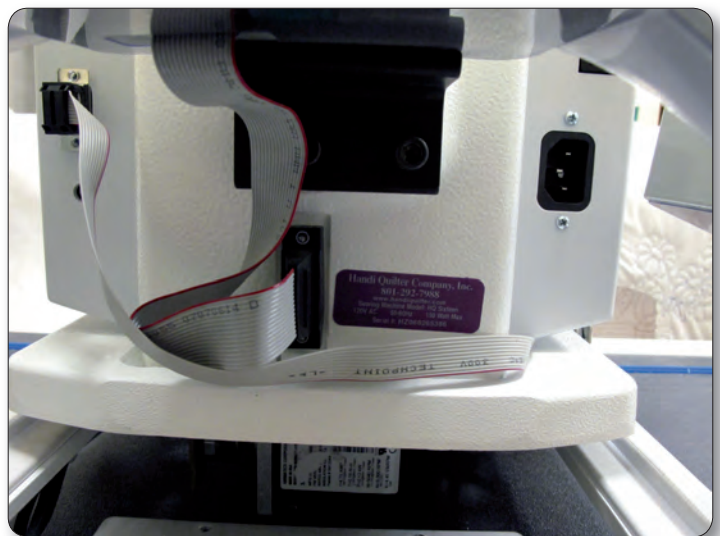

Figure 18
10. To prevent the stitch regulator cable from dragging across the motor assemblies during operation, route the final section of the stitch regulator cable around the back of the quilting machine and plug the 9-pin D-sub connector into the C-Pod (Figure 18).